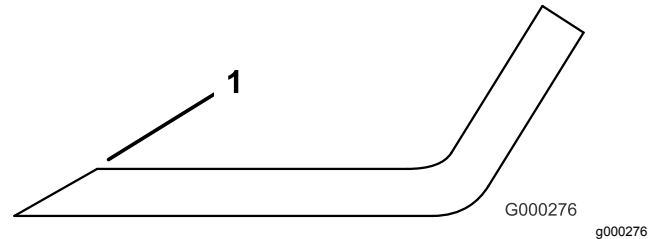

Figure 94
1. Use a file to sharpen the cutting edge at both ends of the blade (Figure 94).